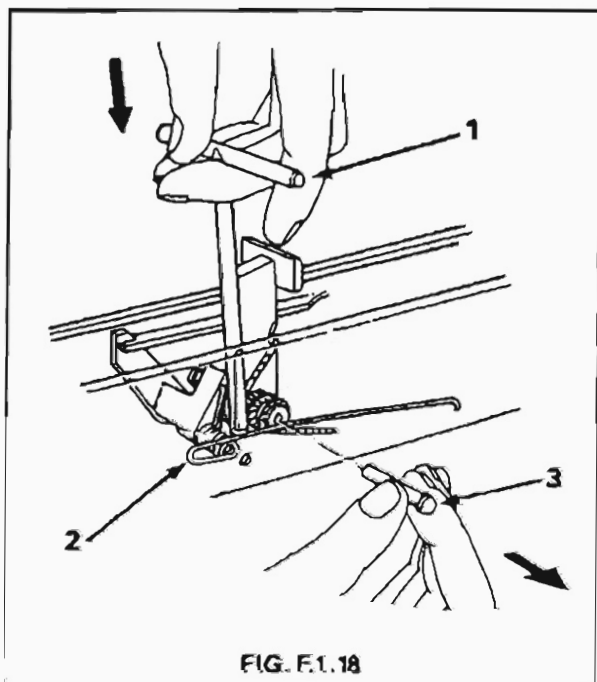

FIG. F.1.18
18. Using the disconnecter spring to allow the spring to clear the groove in the hammer axis pin and remove the axis pin. See Fig. F.1.18.